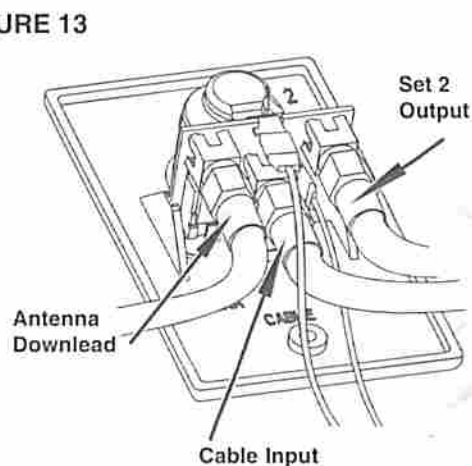

FIGURE 13
STEP 14: Install connectors on download, set 2 and cable input cables as shown on page 4. Attach download cable to jack on wall plate/power supply marked antenna, Figure 13. Attach cable going to set 2 outlet to jack on power supply marked SET 2. Attach cable coming from cable input to jack on power supply marked CABLE.